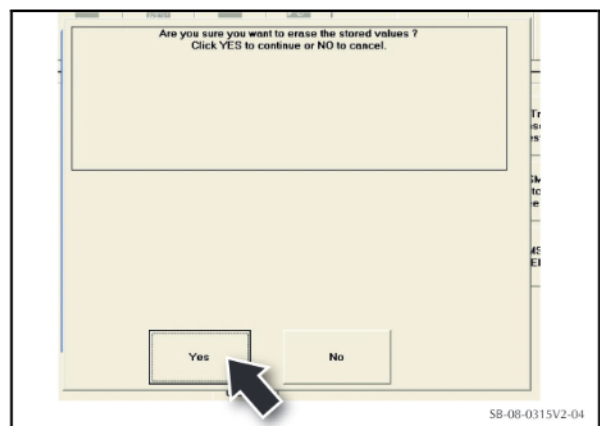

Figure 4
- Click on "YES" to erase the stored data (refer to Figure 4).